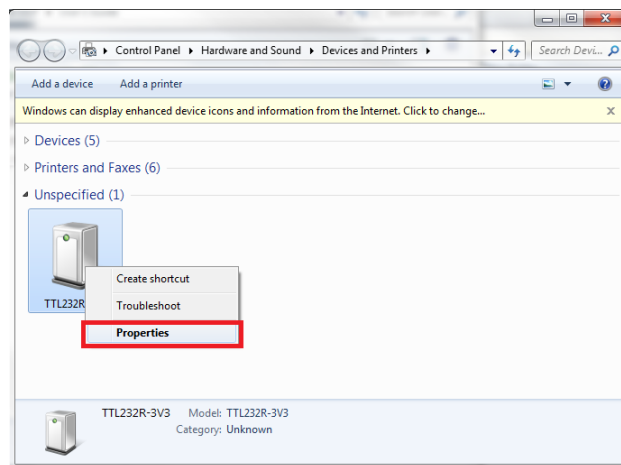

Figure 2-4. TTL-232R-3V3 Properties Menu
4. Find the device labeled TTL232R-3V3 in the list of devices attached to the computer. Right click the device, and select **Properties**, as shown in Figure 2-4.